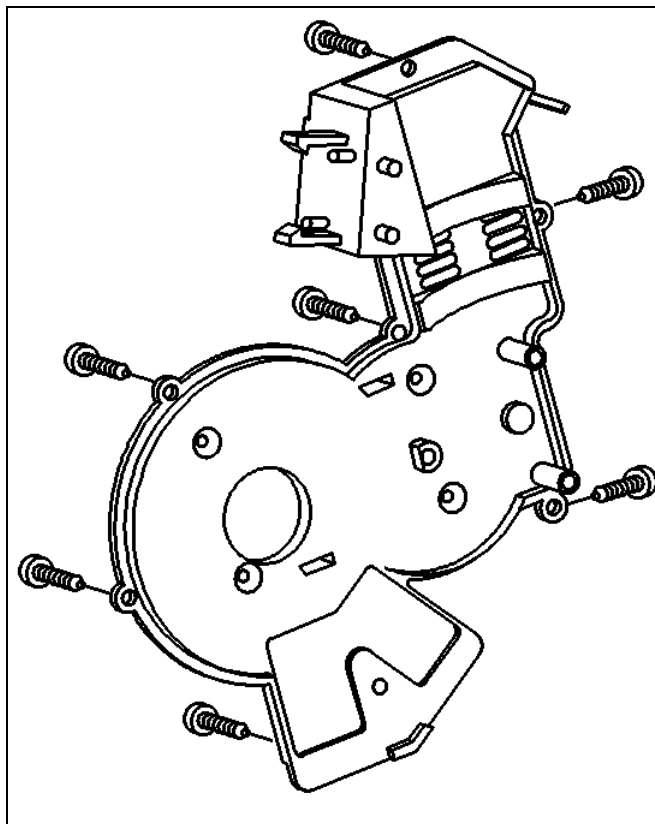

Figure 5-35: Screws Securing the Brew Unit Drive Cover (CVA 610)
11. Remove the 7 Phillips screws securing the brew unit drive cover to the brew unit drive assembly. See Figure 5-35.